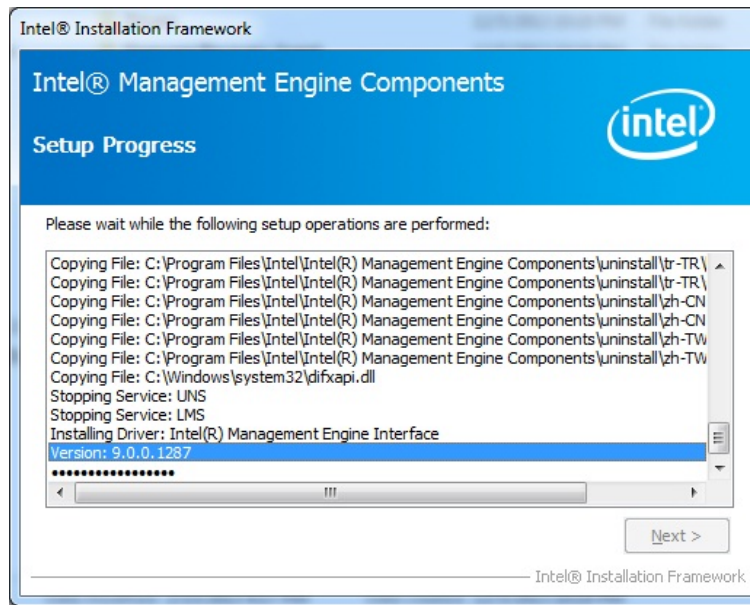

Figure 6-27: Intel® ME Driver Setup Operations
Step 9: **Setup Operations** are performed as shown in **Figure 6-27**.